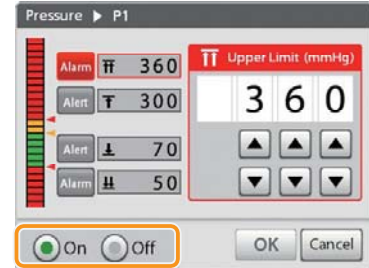

Figure 3-9
3. Tap [On] or [Off]. (Figure 3-9)